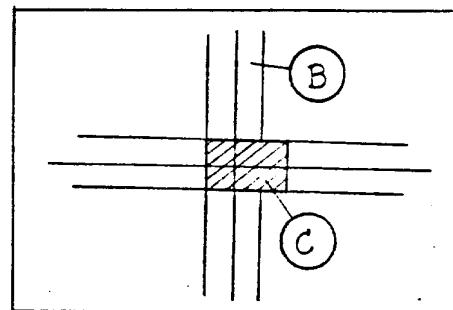

Fig. 29
Adjust first the right side optical axis as shown in Fig. 29 which indicates the relation between the collimator scale and the eyepiece crosshair.
Remarks: (P). (F) The hatched area in Fig. 29 indicates the maximum allowance for the optical axis parallelism ( $0.2 \times 0.3$ ).